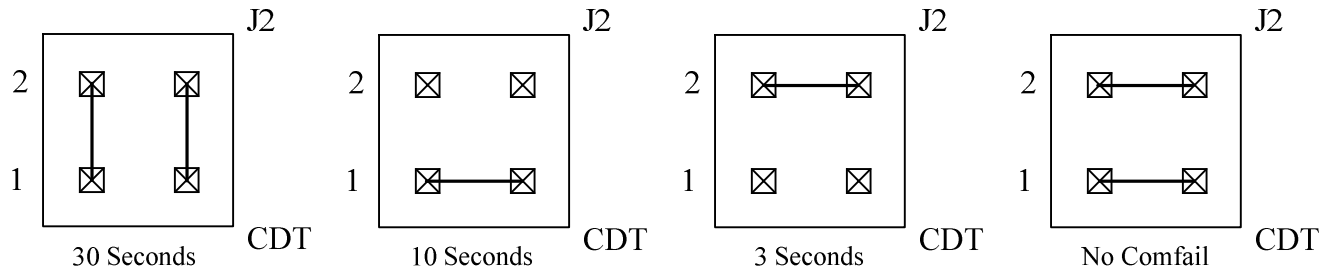

Figure 6 – CDT Jumper J2
Jumper J2 is used to set the Communications Dropout Time (CDT). There are four (4) timeout values that can be set as shown in Figure 6: 1) jumpers 1 to 2 = 30 seconds, 2) jumper 1 = 10 seconds, 3) jumper 2 = 3 seconds and 4) jumper 1 & 2 = no comfail. *If no jumpers are connected the timeout will be 30 seconds.* These times will set the ROM II to declare a communications failure and drop all relays out of service. All LED's will be illuminated once the communications failure is declared. *The default setting is 30 seconds.*